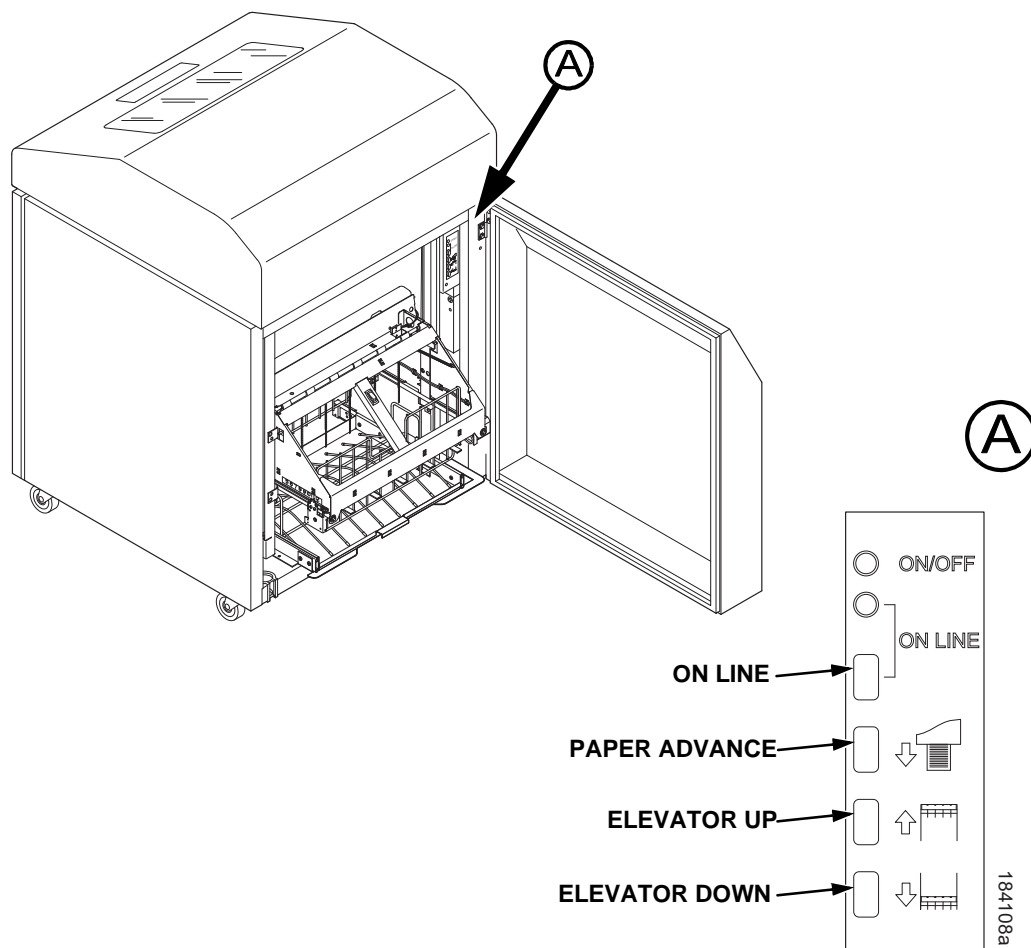

Figure 28. The Rear Control Panel
2. If necessary, press the **ONLINE** key on the front panel or rear control panel to take the printer offline. (Figure 28.)
3. Press the **ELEVATOR UP** key and wait for the elevator assembly to reach the top of its travel. (Figure 28.)